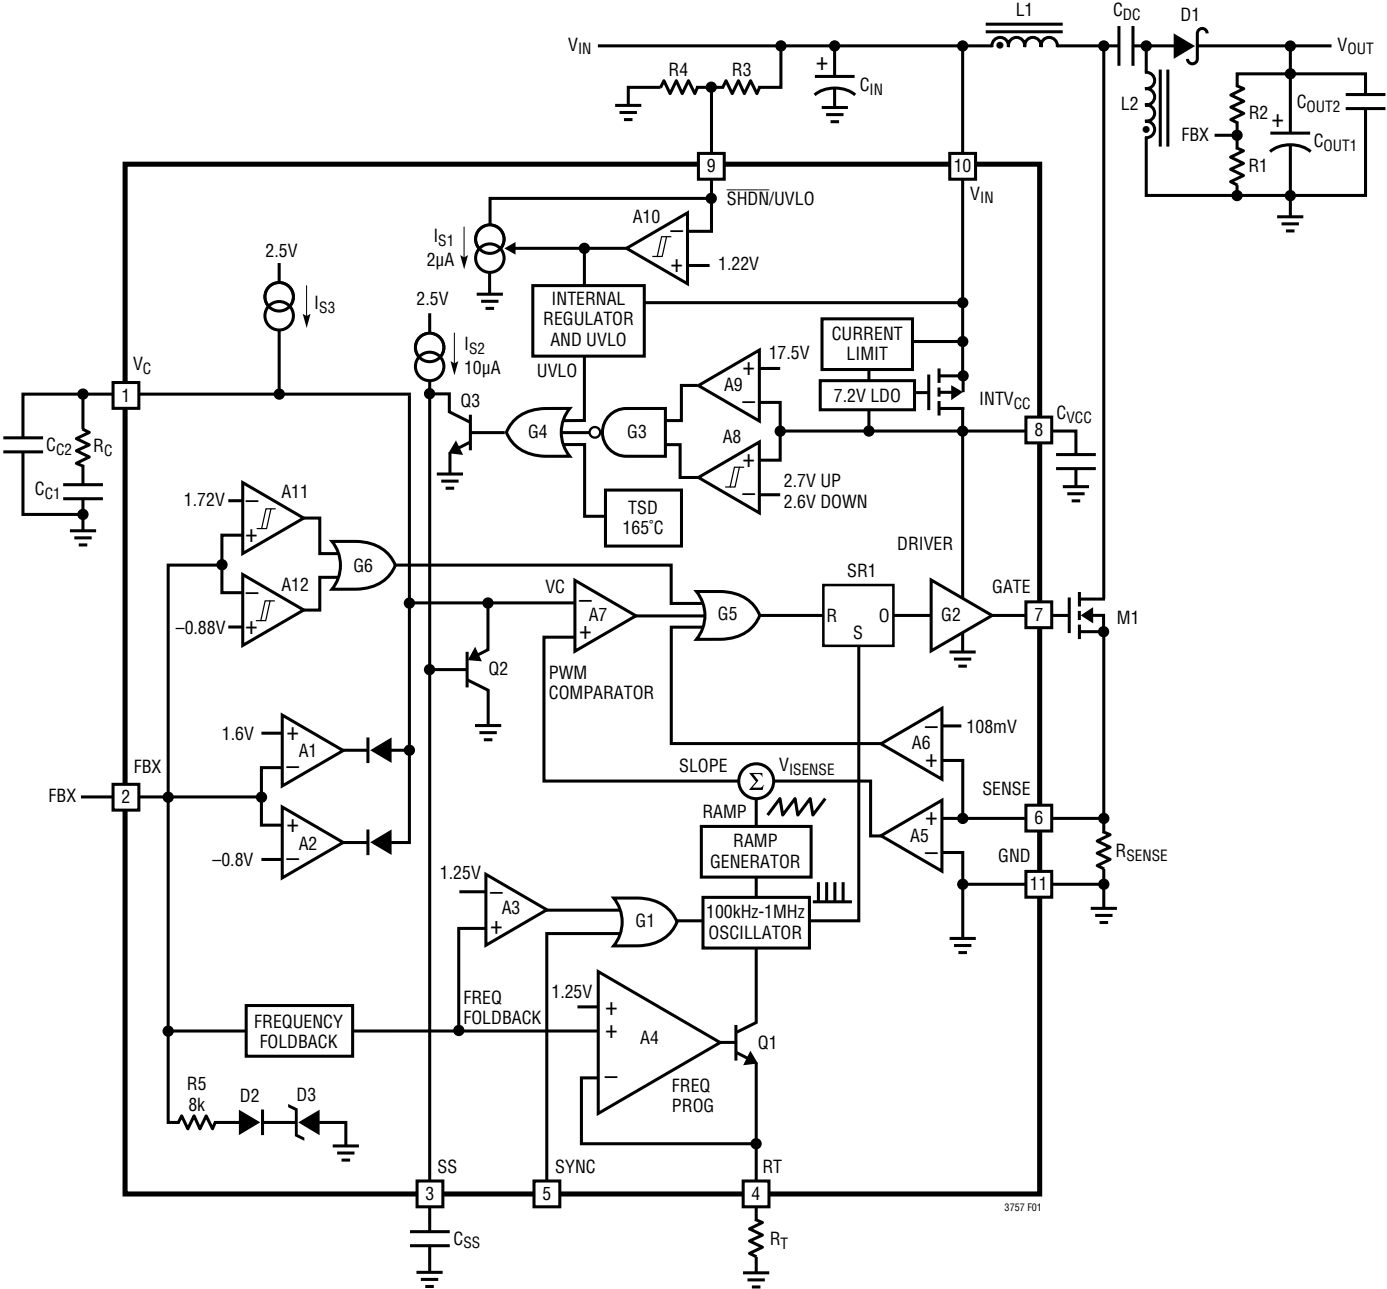

Figure 1. LT3757 Block Diagram Working as a SEPIC Converter
The LT3757 uses a fixed frequency, current mode control scheme to provide excellent line and load regulation. Operation can be best understood by referring to the Block Diagram in Figure 1.
The LT3757 is capable of generating either positive or negative output voltage with a single FBX pin. It can be configured as a boost, flyback or SEPIC converter to generate positive output voltage, or as an inverting converter to generate negative output voltage. When configured as a SEPIC converter, as shown in Figure 1, the FBX pin is pulled up to the internal bias voltage of 1.6V by a voltage divider (R_1 and R_2) connected from V_{OUT} to GND. Comparator A2 becomes inactive and comparator A1 performs the inverting amplification from FBX to V_C . When the LT3757 is in an inverting configuration, the FBX pin is pulled down to -0.8V by a voltage divider connected from V_{OUT} to GND. Comparator A1 becomes inactive and comparator A2 performs the noninverting amplification from FBX to V_C .
The purpose of this current is to allow the user to program the rising hysteresis. The Block Diagram of the comparator and the external resistors is shown in Figure 1. The typical falling threshold voltage and rising threshold voltage can be calculated by the following equations:
An internal, low dropout (LDO) voltage regulator produces the 7.2V INTV_{CC} supply which powers the gate driver, as shown in Figure 1. If a low input voltage operation is expected (e.g., supplying power from a lithium-ion battery or a 3.3V logic supply), low threshold MOSFETs should be used. The LT3757 contains an undervoltage lockout comparator A8 and an overvoltage lockout comparator A9 for the INTV_{CC} supply. The INTV_{CC} undervoltage (UV) threshold is 2.7V (typical), with 100mV hysteresis, to ensure that the MOSFETs have sufficient gate drive voltage before turning on. The logic circuitry within the LT3757 is also powered from the internal INTV_{CC} supply.
The choice of operating frequency may be determined by on-chip power dissipation, otherwise it is a trade-off between efficiency and component size. Low frequency operation improves efficiency by reducing gate drive current and MOSFET and diode switching losses. However, lower frequency operation requires a physically larger inductor. Switching frequency also has implications for loop compensation. The LT3757 uses a constant-frequency architecture that can be programmed over a 100kHz to 1000kHz range with a single external resistor from the RT pin to ground, as shown in Figure 1. The RT pin must have an external resistor to GND for proper operation of the LT3757. A table for selecting the value of R_T for a given operating frequency is shown in Table 1.
The output voltage (V_{OUT}) is set by a resistor divider, as shown in Figure 1. The positive and negative V_{OUT} are set by the following equations:
In the applications where V_{OUT} is pulled up by an external positive power supply, the FBX pin is also pulled up through the R2 and R1 network. Make sure the FBX does not exceed its absolute maximum rating (6V). The R5, D2, and D3 in Figure 1 provide a resistive clamp in the positive direction. To ensure FBX is lower than 6V, choose sufficiently large R1 and R2 to meet the following condition:
The LT3757 addresses this mechanism with the SS pin. As shown in Figure 1, the SS pin reduces the power MOSFET current by pulling down the V_C pin through Q2. In this way the SS allows the output capacitor to charge gradually toward its final value while limiting the start-up peak currents. The typical start-up waveforms are shown in the Typical Performance Characteristics section. The inductor current I_L slewing rate is limited by the soft-start function.
The optimum values depend on the converter topology, the component values and the operating conditions (including the input voltage, load current, etc.). To compensate the feedback loop of the LT3757/LT3757A, a series resistor-capacitor network is usually connected from the V_C pin to GND. Figure 1 shows the typical V_C compensation network. For most applications, the capacitor should be in the range of 470pF to 22nF, and the resistor should be in the range of 5k to 50k. A small capacitor is often connected in parallel with the RC compensation network to attenuate the V_C voltage ripple induced from the output voltage ripple through the internal error amplifier. The parallel capacitor usually ranges in value from 10pF to 100pF. A practical approach to design the compensation network is to start with one of the circuits in this data sheet that is similar to your application, and tune the compensation network to optimize the performance. Stability should then be checked across all operating conditions, including load current, input voltage and temperature.